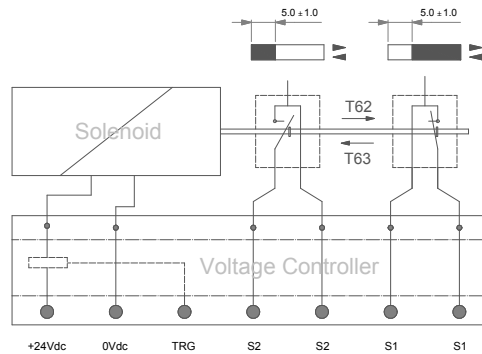

Fig. 5 Circuit schematic
- Positive break (forced contact) switch $\pm 24V$ 0.5A – see Fig 5.